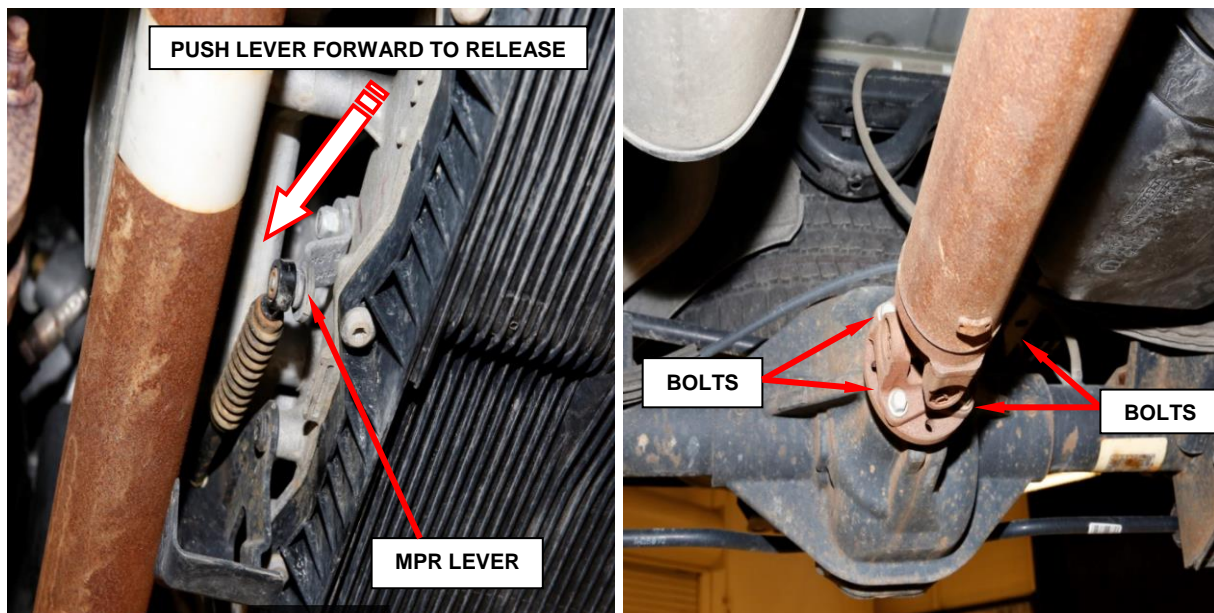

Figure 1 – Pinion Flange Bolts
2. Remove and **DISCARD** the four pinion flange bolts from the driveshaft (Figure 1).